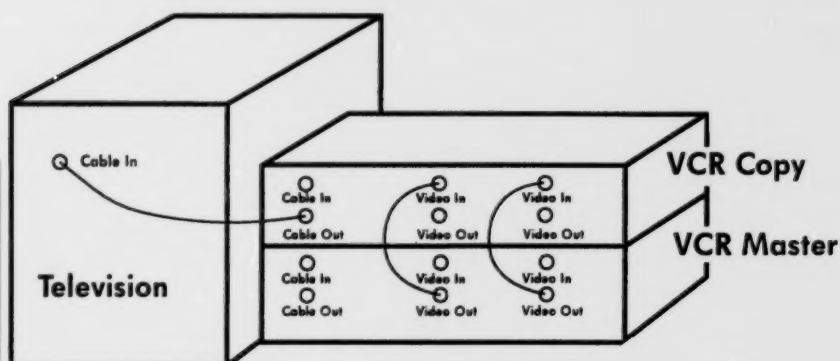

Figure 4 - Connections Between 2 VCRs
- If you have two TV/VCRs, connect them so that you can play one and record with the other. Figure 4 shows the normal way of doing this (it may vary from one model to another).